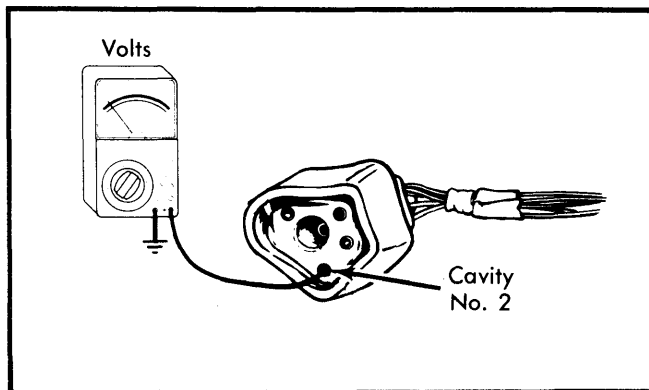

Fig. 10 Checking Voltage at Cavity No. 2
2) With voltmeter negative lead still connected to ground, connect positive lead to harness connector cavity 2. Voltmeter should again read battery voltage. If reading is not to specification, check voltage at each connection (coil negative terminal, coil positive terminal, ballast resistor, ignition switch, etc.) back to battery. Repair wiring or replace components as necessary. See Figs. 10 and 11.